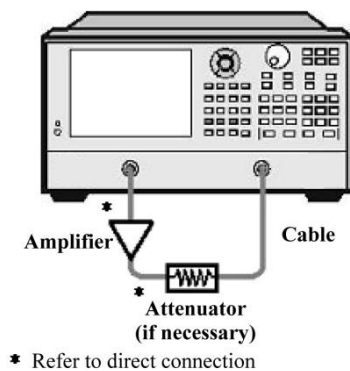

Fig. 8.17 Connection in Absolute Output Power Measurement
- 4) As shown in Fig. 8.17, connect the amplifier and provide the DC bias. If necessary, use an external attenuator to fully attenuate the output power of the amplifier so as to prevent the receiver on Port 2 of the analyzer from compression or burning.